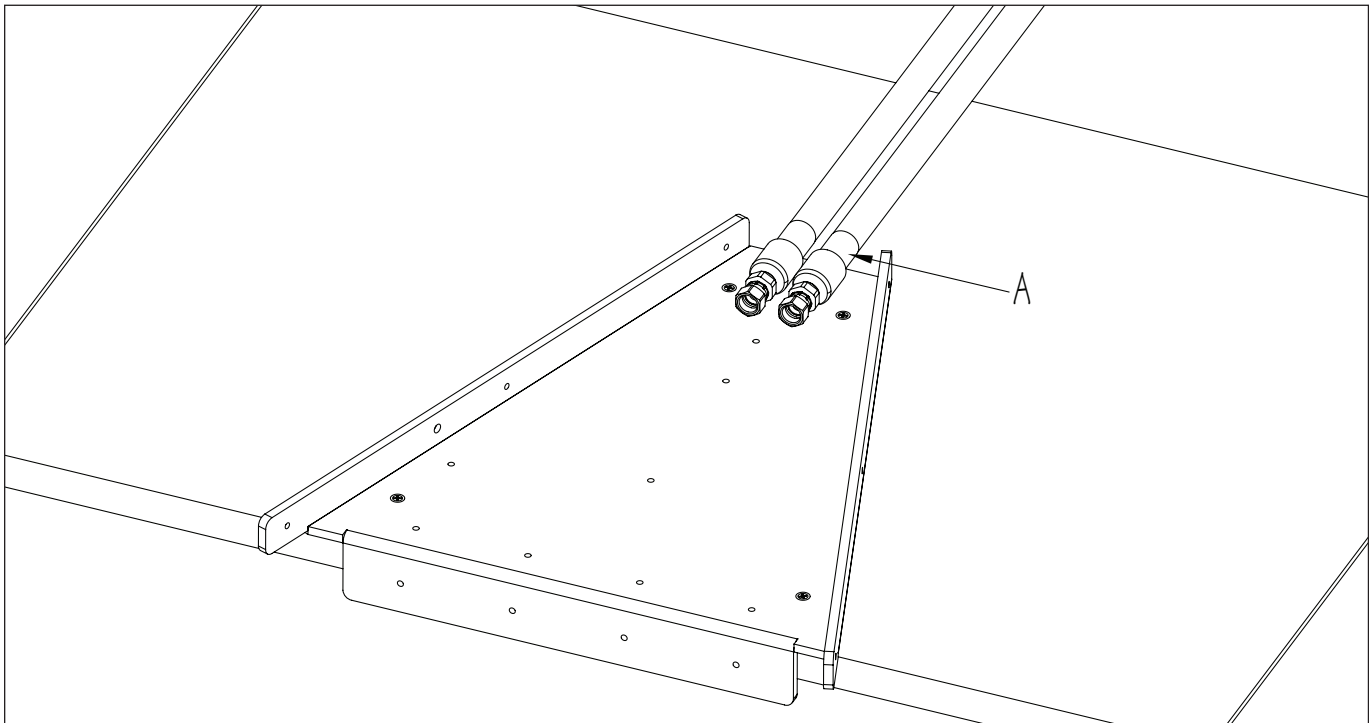

Fig. 19
Route the Run Hoses (A) from the poolside Deck Plate to the remotely located Hydraulic Power Unit. **AGAIN, VERIFY THE POOL LABEL ON THE END OF EACH HOSE IS POOLSIDE** (Fig. 19).